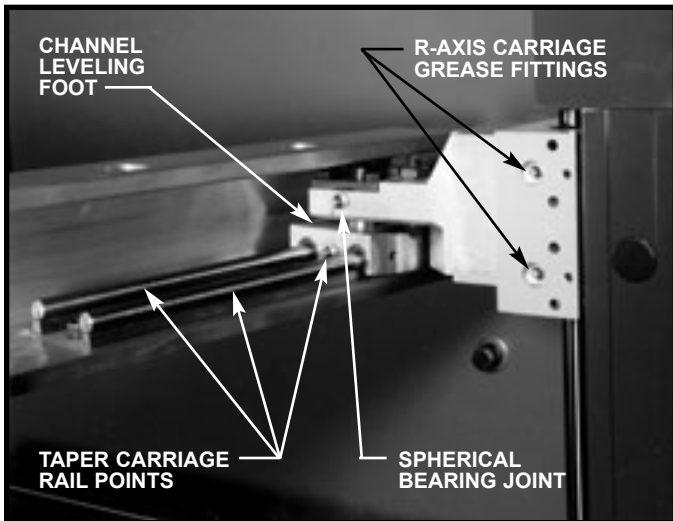

FIGURE 9-6 CNC Heavy Duty Backgage Power R-axis
- ◆ Grease the channel tapering carriage/guide rods using the fitting on the side of the tapering carriage. See Figure 9-6.